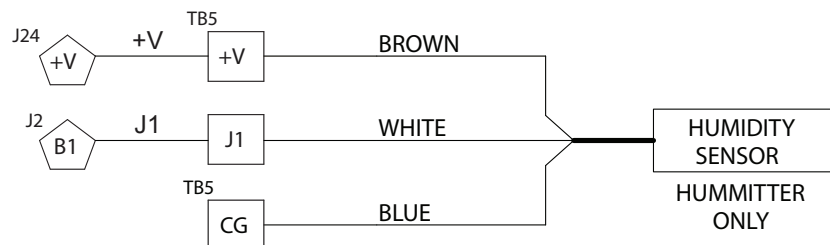

Figure 16
- c. Wire new humidity sensor to terminal blocks J1, +V and CG (Figure 16) as indicated in schematic **228124**.